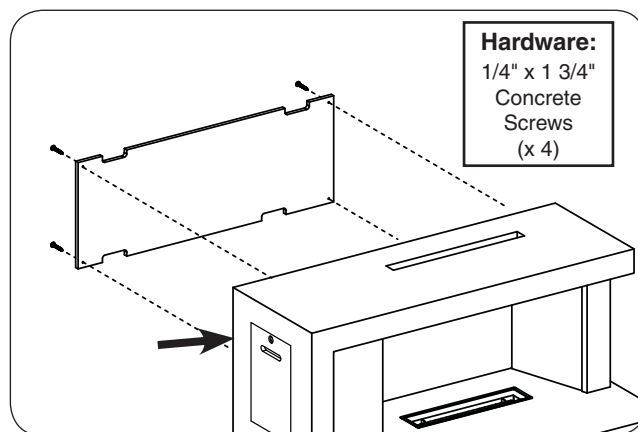

Fig. 18-2 Install outer rear-panel
2. Place the outer rear-panel in position against the rear of the fire box, then fasten using a Phillips screwdriver and the supplied concrete screws (see Fig. 18-2).